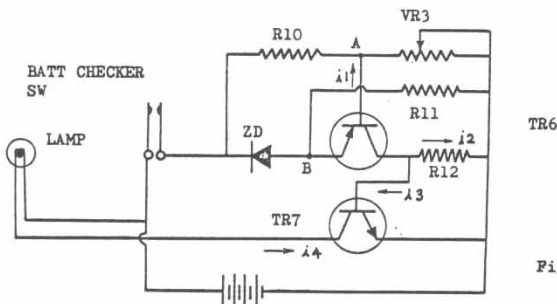

Fig. 2-29
By pushing in the BATT checker button, the battery life can be checked easily; If the indicator does not glow, the battery is out of use. Battery checker circuit is shown in Fig. 2-29.
As a sensor for checking the battery out-put, resistors R10, R11 R12 and a zener diode (ZD) form a bridge. Two points A and B on the bridge are connected to the base and emitter of TR 6 respectively, as shown in Fig. 2-29.